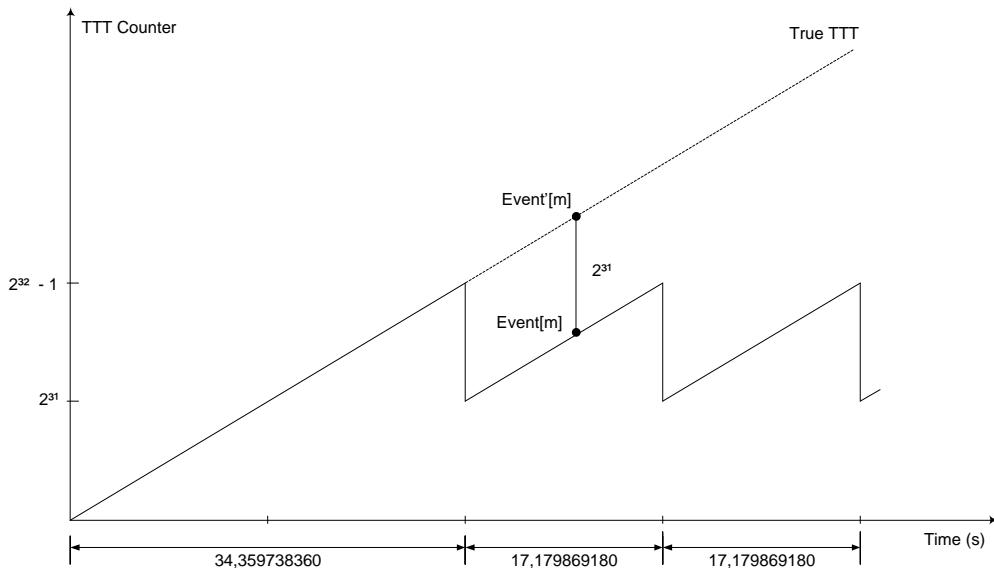
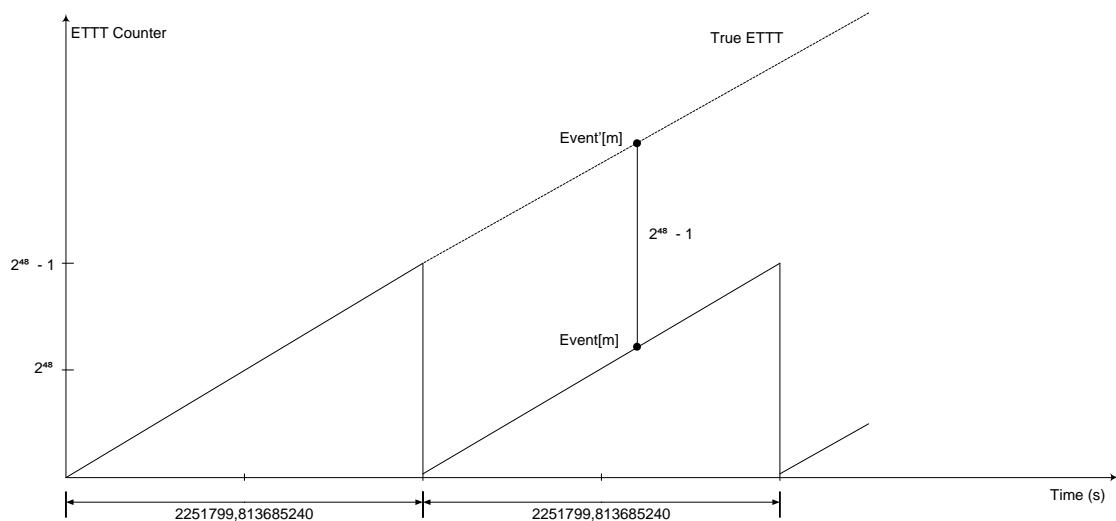

Fig. 9.4: TTT description.
Fig. 9.5: ETTT description.
- **TRIGGER TIME TAG** (bits[31:0] of 4th header word) is the 31-bit Trigger Time Tag (TTT) information (31 bit counter and 32nd bit as roll-over flag), which is the trigger time reference. The word is composed of the value of the 31-bit counter of the Trigger Time Tag (bit[30:0]) plus the overflow bit (bit[31]) indicating that the timestamp counter has overflowed at least once (Fig. 9.4). If the ETTT option is enabled, then this field becomes the 32 less significant bits of the 48-bit Extended Trigger Time Tag information in addition to the 16 bits (MSB) of the TRG OPTIONS field (2nd event word). Note that, in the ETTT case, the roll-over flag is no more provided (Fig. 9.5). The trigger time tag is reset either at the start of acquisition, or via front panel signal on S-IN or LVDS I/O connectors, and increments with 125 MHz frequency (i.e. every 8 ns, that is $\frac{1}{2}$ ADC clock cycle). The TTT value is read at half this frequency (i.e. 62.5 MHz) so that the specifications are 16 ns resolution and 17 s range (8 ns \times $(2^{31} - 1)$), which can be extended to 625 h (8 ns \times $(2^{48} - 1)$) if ETTT is enabled.